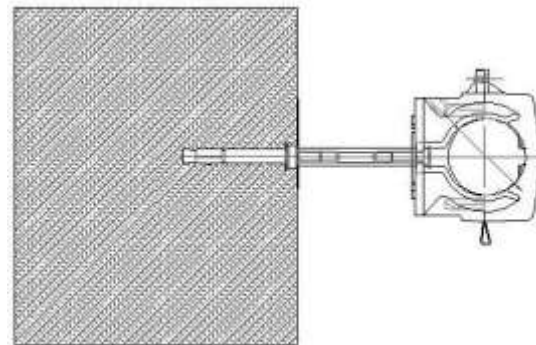

Figure 2
Trilogy offers custom hanger solutions for high-speed train applications as well as hangers for fire prevention and messenger wire attachment. Contact Trilogy's Product Engineering support at (601) 932.4461 for assistance selecting the best solution for your application. The most common hanger installation is on the concrete walls inside the tunnel. Trilogy has standard hangers for this application which allow for ease of installation. For concrete tunnels, spacing the hangers at 2 meters (6.56 ft) intervals for 7/8" and larger diameter cables will ensure excellent support with minimum sag. The standard installation method requires drilling and installing a drop-in anchor into the concrete wall of the tunnel as shown in figure 2 below.